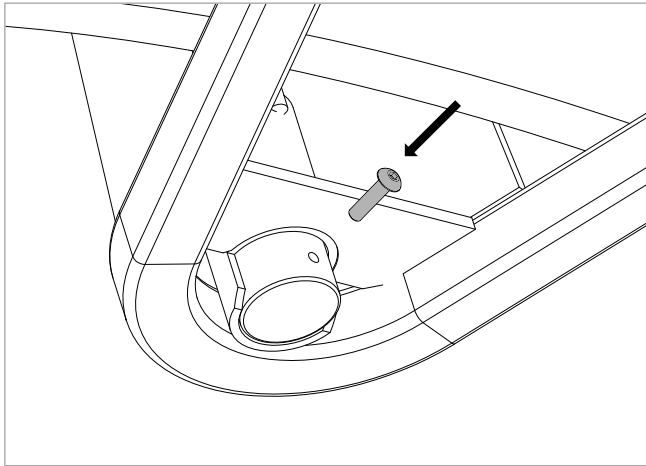

Figure 7.8
8. Fit the M5 x 20mm screw to the threaded hole of the lifting pole as shown in Figure 7.8 and tighten with a 4mm Allen key.